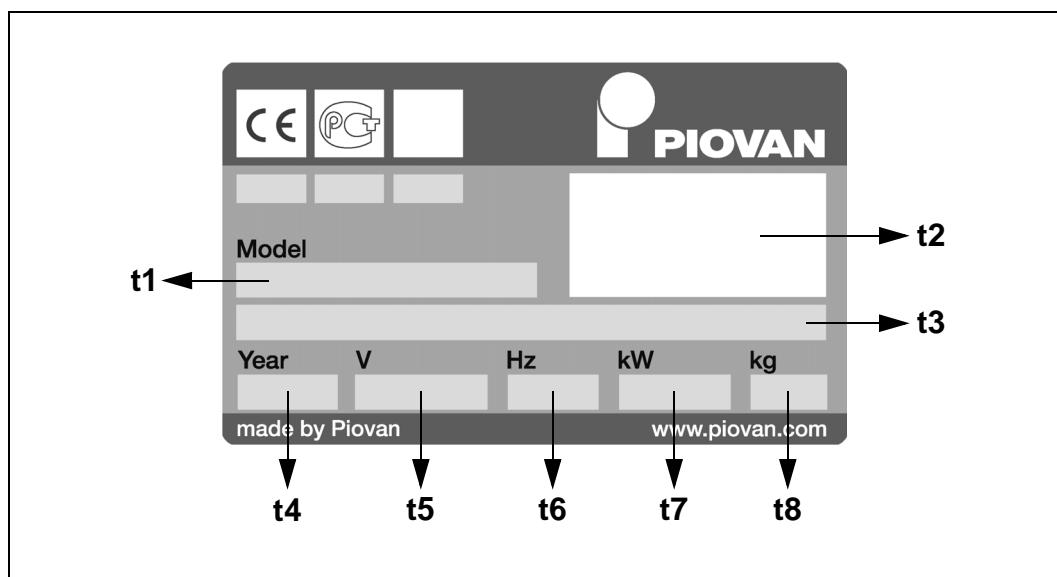

Fig. 13
1. All the data on the identification plate affixed to the machine (see **Fig. 13 - Page 28**).